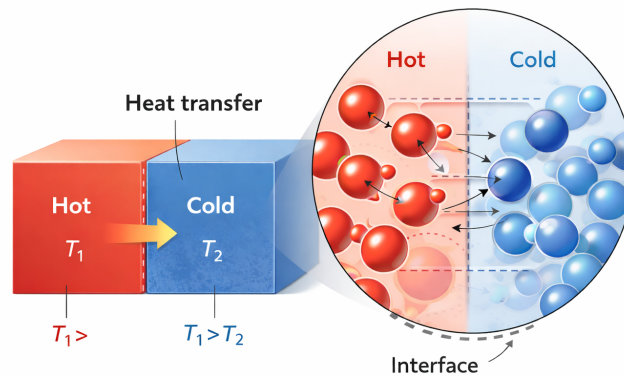

Fig. 11: Heat is energy transferred between two systems due to molecular collisions of atoms with different kinetic energies (i.e. temperatures).
**Heat:** Energy transferred as a result of a temperature difference, with energy going from hot to cold (see Fig. 11).